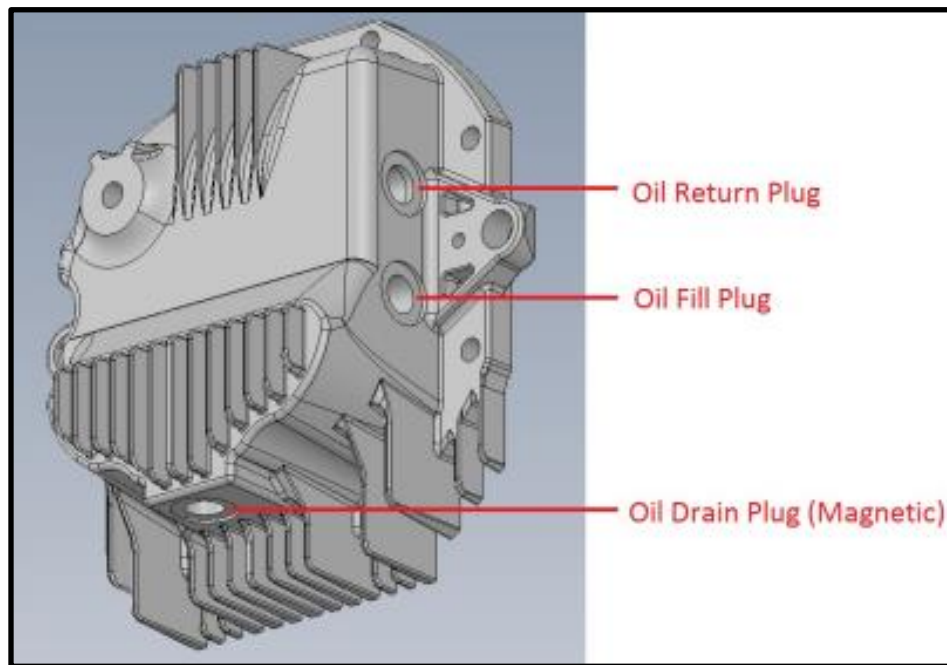

Figure 1
2. Fill Differential with Fluid until level with *Oil Fill Plug* hole. A 75w90 Differential Fluid is recommended for street driving, while a 75w140 Differential Fluid is recommended for Track use and Spirited Driving. Make sure to not overfill the differential, and use the proper fill port on the Z1 Differential Cover. *Figure 1*.